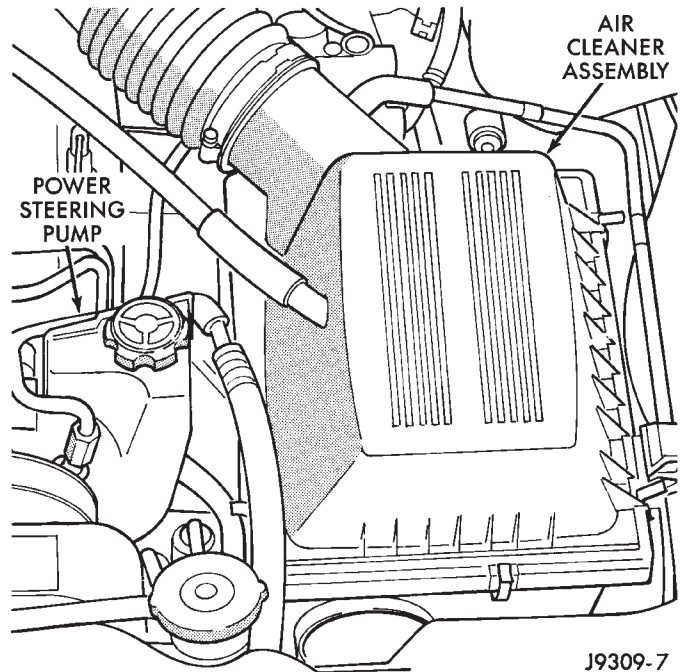

Fig. 30 Air Cleaner Assembly & Power Steering Pump
(19) Remove the fuel line bracket from the intake manifold.
(20) Remove the air cleaner assembly (Fig. 30).
(21) Remove the power brake vacuum check valve from the booster, if equipped.
(22) **Vehicles with Power Steering (Fig. 30):**